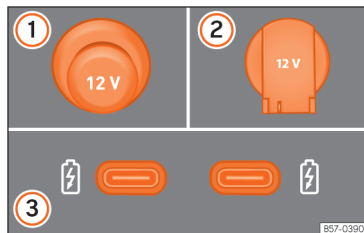

Fig. 143 12 volt power socket: (1) in the centre console, (2) in the luggage compartment. The USB power socket is located at the rear of the centre console (3).
- Remove the cover from the socket, located on the centre console »» Fig. 143 (1).
- Lift the power socket cover »» Fig. 143 (2).
These USB ports are located in the rear part of the centre console, between the front seats »» Fig. 143 (3). These connectors can work at a maximum power of up to 10.5 W per port.